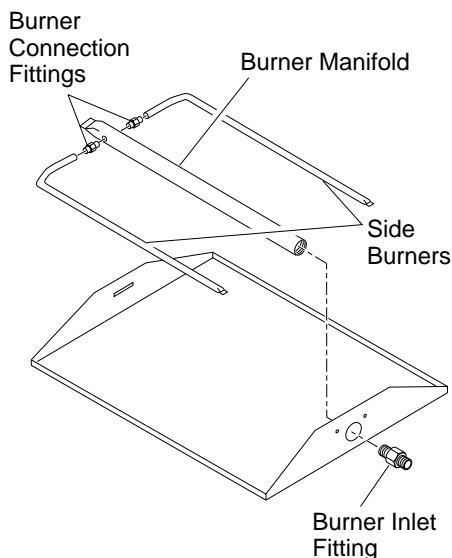

Figure 6 - Installing Burner
2. Place burner manifold in pan with threaded opening facing open knock-out plug (see Figure 6). Make sure the burner ports face downward.
5. Press the right and left side burners onto the burner connection fittings. The burner porting should face downward (see Figure 6).